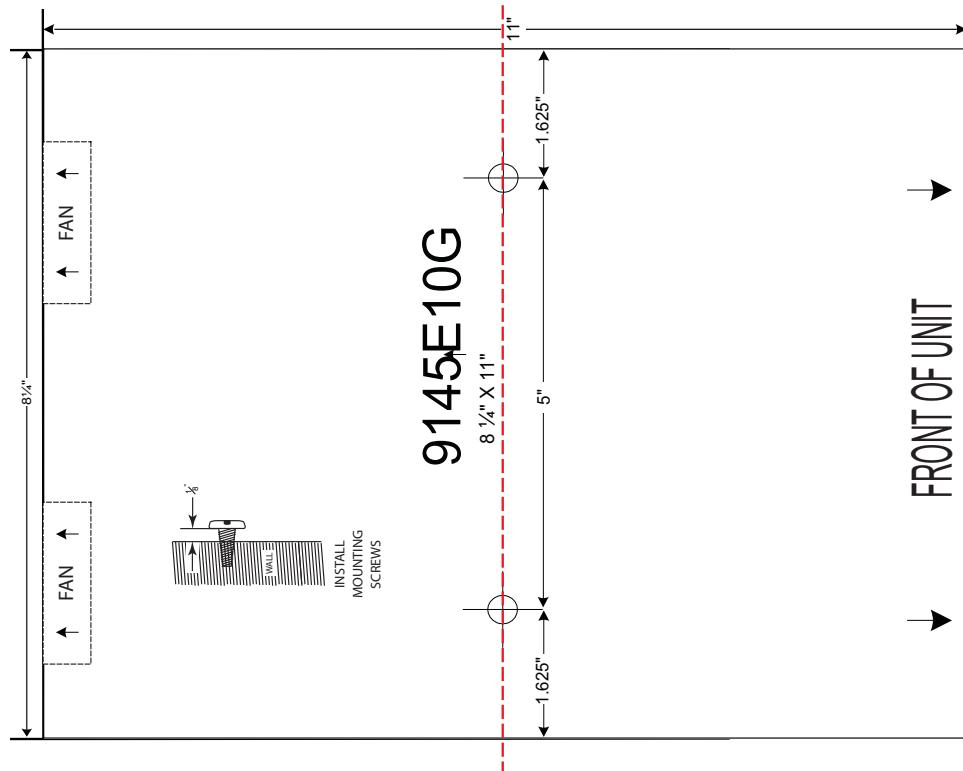

Figure 3-9. 9145E10G Wall Mount Template
1. Tape the template (see Figure 3-9) to the wall, ensuring that the edge of the template corresponding to the direction you wish to mount the unit is parallel to the floor and ceiling.